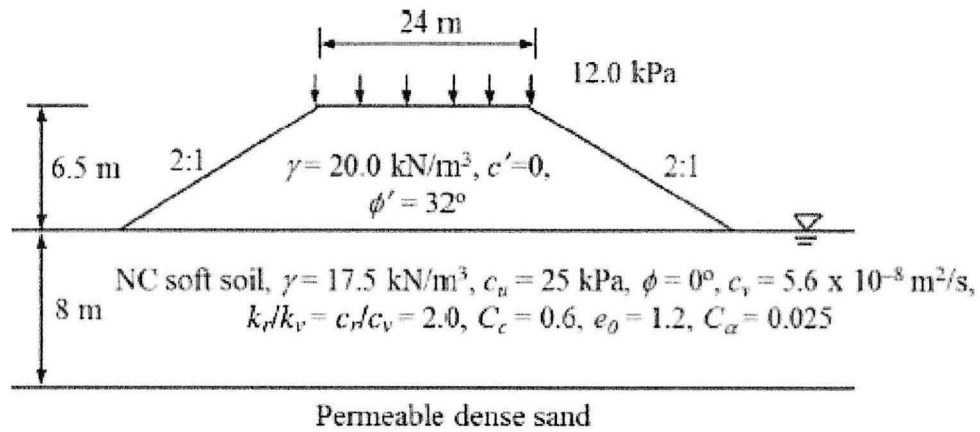

FIGURE Q1(c): Soil profile of soft soil improved PVD
- (c) A highway embankment is to be constructed on normally consolidated soft soil as shown in **Figure Q1(c)**. The PVDs with the spacing of 1.2 m will be placed in a triangular pattern to the top of the dense sand to accelerate the consolidation. The selected PVDs have the cross sectional dimensions of 100 mm and 4 mm. The allowable discharge capacity of the PVD is $3 \times 10^{-4} \text{ m}^3/\text{s}$. The smear zone is assume 2.5 times the equivalent diameter of PVD. The permeability of the smear zone is 40% of the vertical permeability of the natural soil.